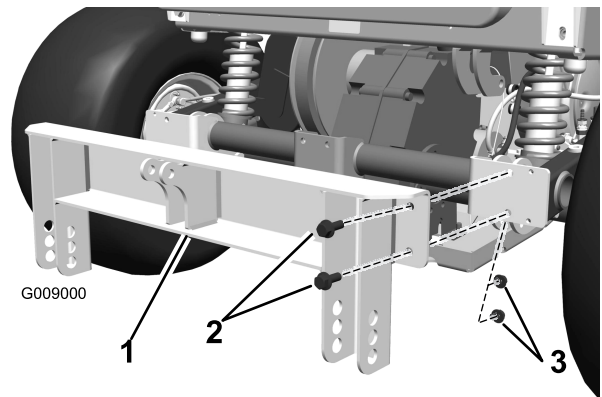

Figure 3
1. Align the holes in the rear lift frame with the holes in the rear and bottom of the vehicle swing arm frame as shown in Figure 3.